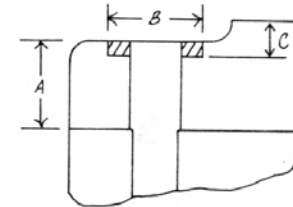

FIG. 4
1. Using the original column hole for location, counterbore the bottom surface of the cylinder to Dim. B, Fig. 4. This counterbore should be bored to a depth as measured from Dim. C, Fig. 4. The measurement is made from the face of the stuffing box to the bottom of the counterbore. Careful attention must be given to Dim. A, Fig. 4.